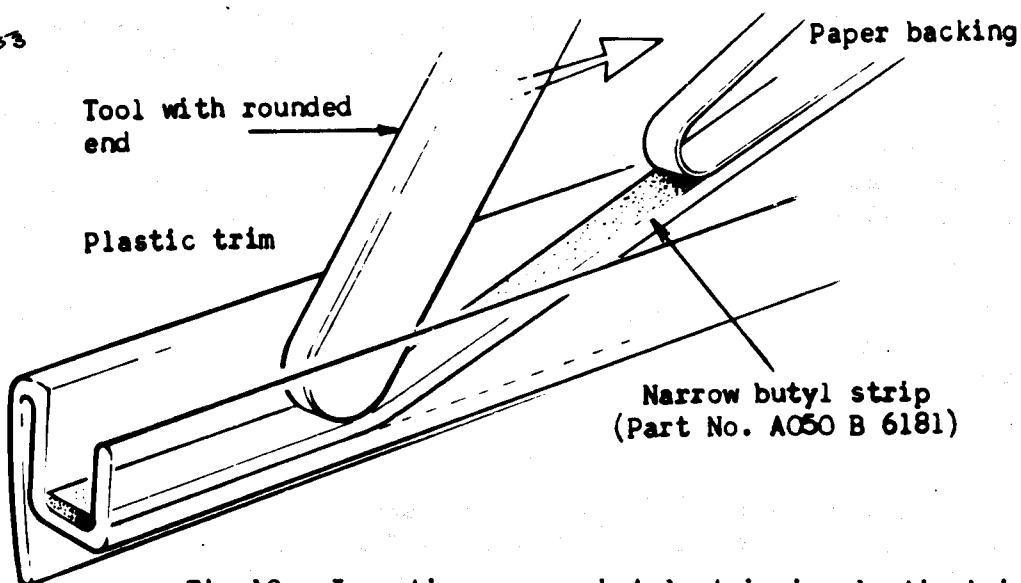

Fig.19 - Inserting narrow butyl strip in plastic trim
9. Place the narrow butyl strip in the glass slot of the plastic trim, removing the paper backing as it is inserted with the aid of a suitable tool having a rounded end (see Fig.19). The tool should be slightly wider than the trim so that the slot is opened to accept the butyl.